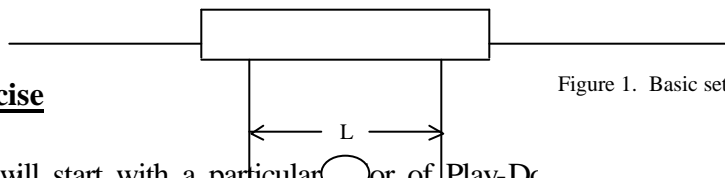

Figure 1. Basic set-up for the “Play-doh” exercise.
To determine the resistance of a conducting element, equation (1) indicates that one can measure the voltage drop when a known current exists within the conducting element. The circuit must be set up carefully to avoid measuring voltage drops across connecting wires and contact points. The circuit shown in Fig. 1 avoids these problems. Since no current exists through the voltmeter probe, the only voltage drop measured is that across the particular section of the conducting element, L .